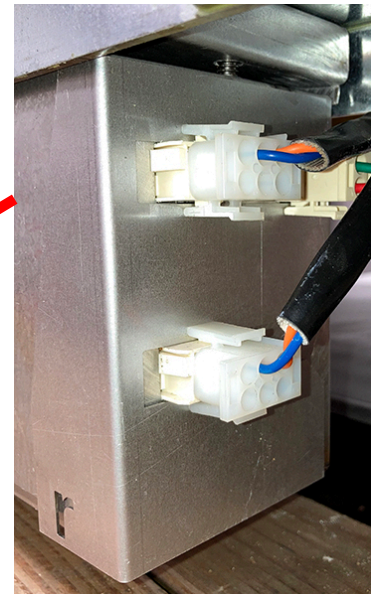

Figure 8
9. Repeat steps 7 & 8 to attach the right shield to the right side of the transformer box (see Figure 8).